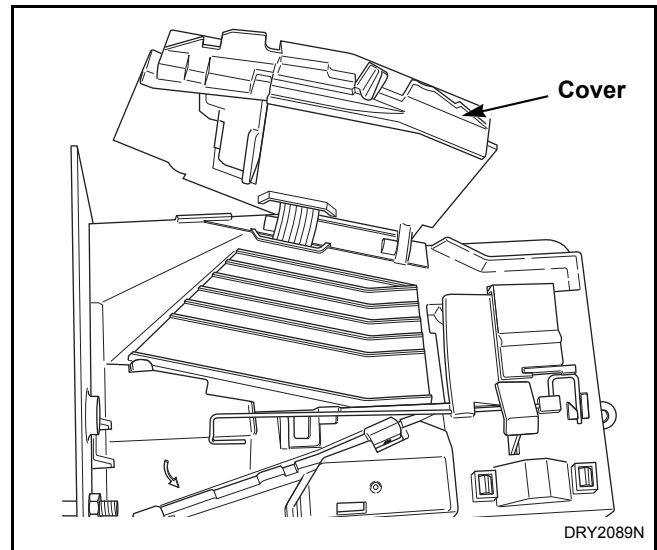

Figure 18
- (2) Open cover for coin drop. Refer to Figure 18.